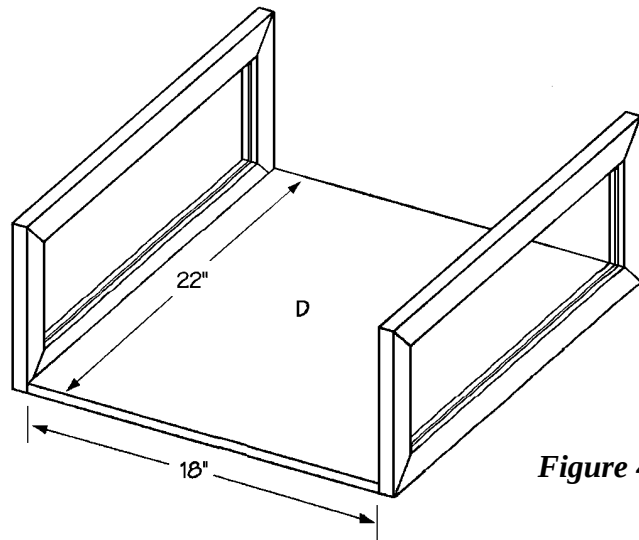
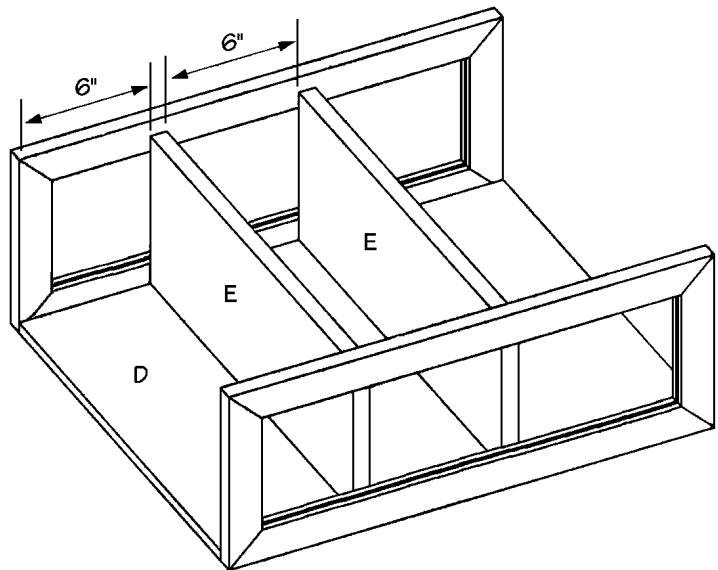
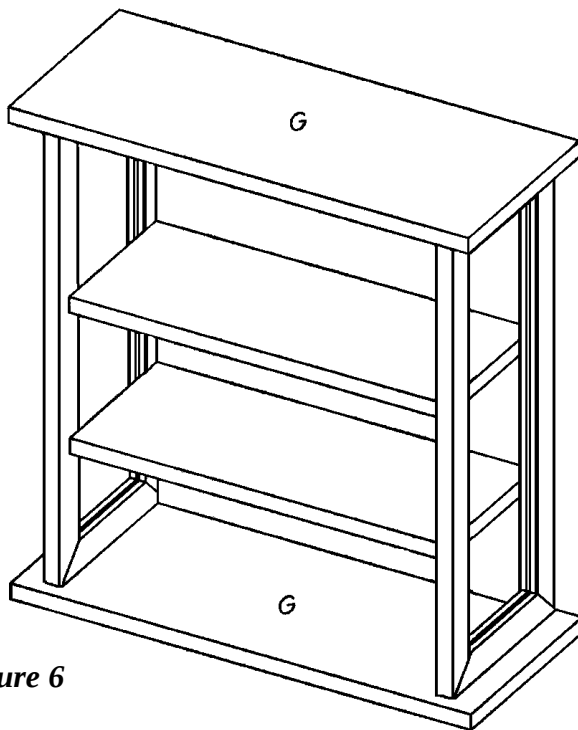

Figure 4
Figure 5
Figure 6
1. Cut one back (D) from 1/2" plywood, measuring 18 x 22 inches.
inches apart. Place the back (D) between the two sides, matching the 22-inch-long edges, as shown in *Figure 4*. Screw through the vertical sides (A) into the edges of the back (D) using five 1-1/2" screws on each joint.
3. Cut two shelves (E) from 1 x 8 pine, each measuring 18 inches long.
4. Fit one shelf (E) between the two side assemblies, 6 inches from the bottom of the cabinet, and flush against the back (D), as shown in *Figure 5*. Nail through the cabinet vertical sides (A) into the shelf (E) using two 1-1/2" 4d-finish nails on each joint.
5. Repeat Step 4 to attach the second shelf (E) 6 inches above the first, as shown in *Figure 5*.
6. Cut two top/bottoms (F) from 1 x 10 pine, each measuring 22 inches long.
7. Each of the top/bottoms (G) will be centered side-ways on the open ends of the cabinet assembly and placed flush with the back of the cabinet as shown in *Figure 6*. Apply glue to the ends of the side assembly and the edge of the back, and nail through the cabinet top/bottoms into the edges of the back and side assemblies, using 1-1/2" 4d-finish nails spaced every 4 inches.